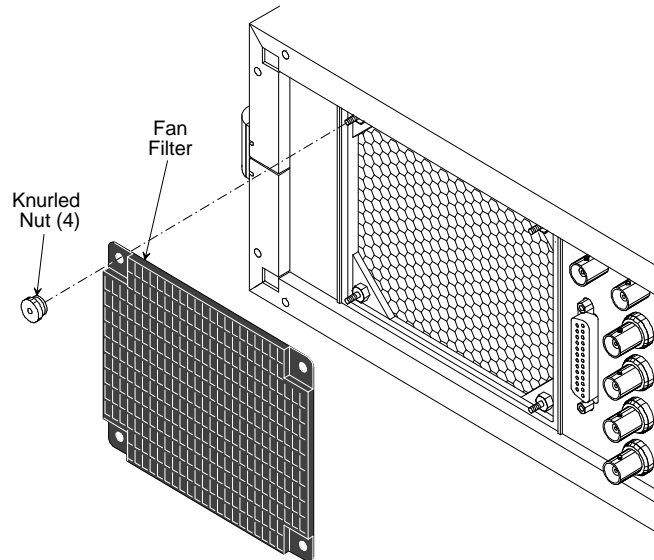

Figure 6-2. *Removing/Replacing the Fan Filter*
1. Remove the four knurled nuts holding the fan filter in place (Figure 6-2).